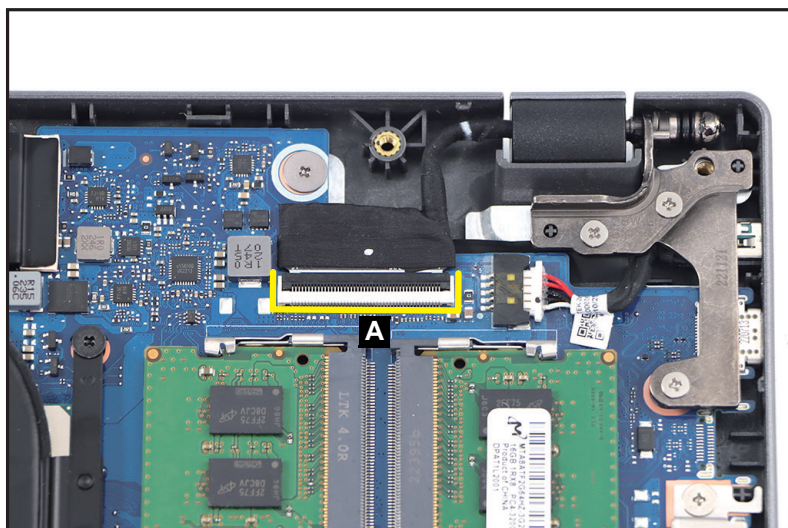

Figure 1-18. LCD Module Removal
1. Disconnect the eDP cable from the mainboard connector (A) (Figure 1-18).